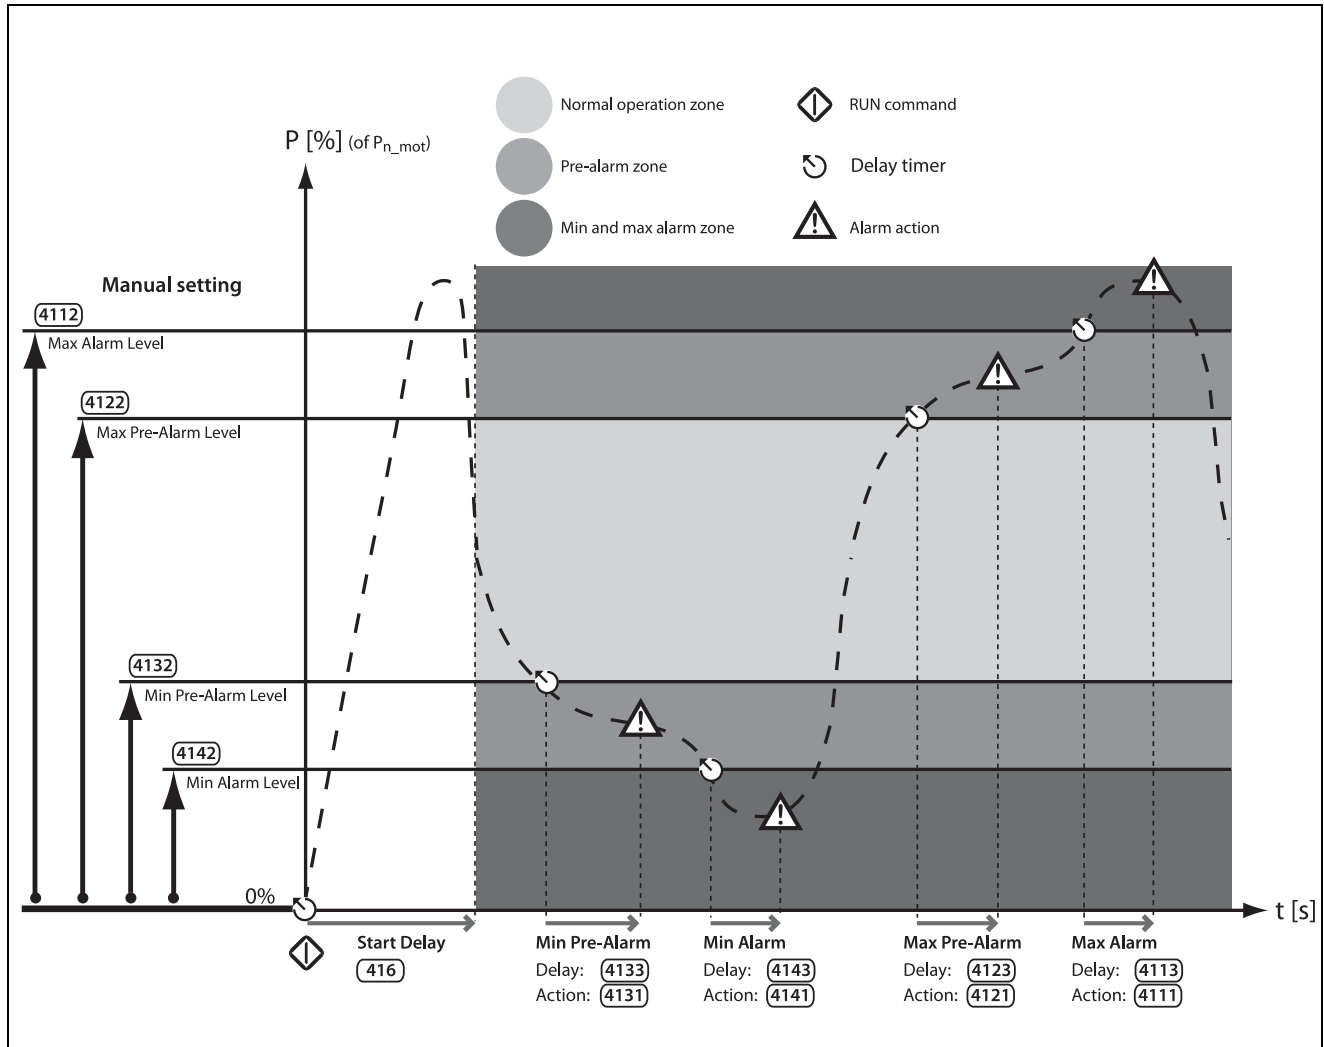

Fig. 40 Manually set load monitor alarm levels.
1. Manual configuration, in which up to four “Alarm Levels” are set directly (Fig. 40).